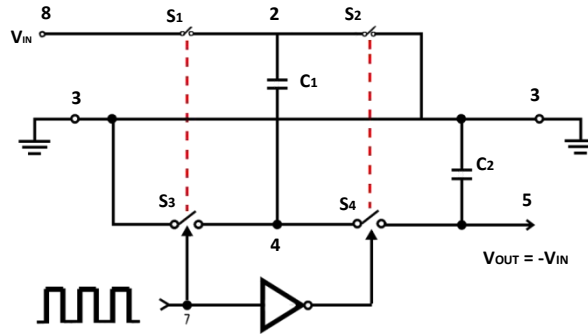
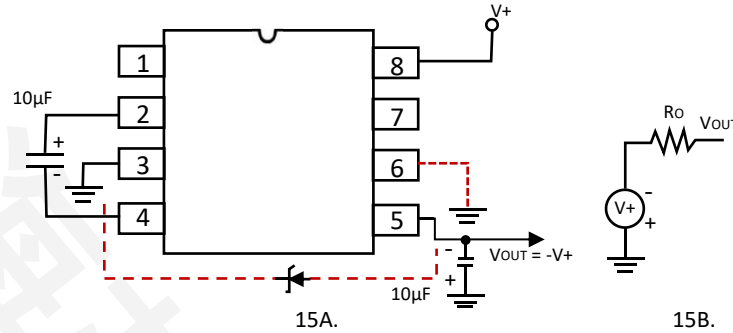
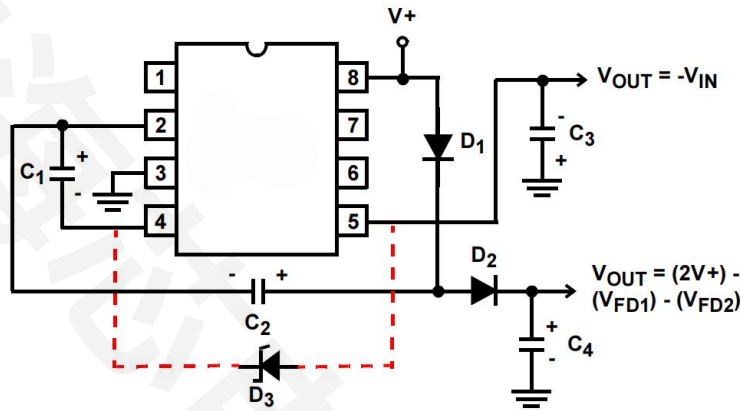
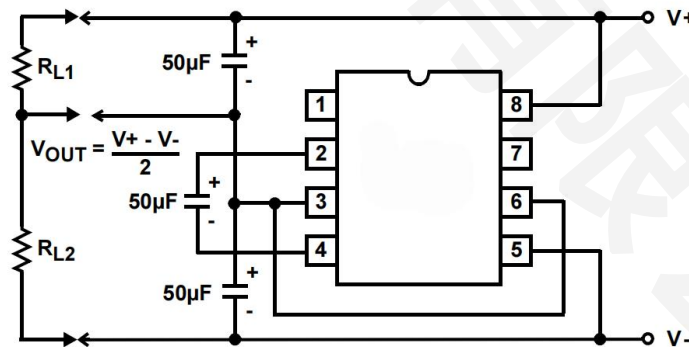

FIGURE 14. IDEALIZED NEGATIVE VOLTAGE CONVERTER
FIGURE 15. SIMPLE NEGATIVE CONVERTER AND ITS OUTPUT EQUIVALENT
FIGURE 19. COMBINED NEGATIVE VOLTAGE CONVERTER AND POSITIVE DOUBLER
FIGURE 20. SPLITTING A SUPPLY IN HALF
The ICL7660SIBAZT-HX contain all the necessary circuitry to complete a negative voltage converter, with the exception of two external capacitors, which may be inexpensive $10\mu F$ polarized electrolytic types. The mode of operation of the device may best be understood by considering Figure 14, which shows an idealized negative voltage converter. Capacitor C_1 is charged to a voltage, V_+ , for the half cycle, when switches S_1 and S_3 are closed. (Note: Switches S_2 and S_4 are open during this half cycle). During the second half cycle of operation, switches S_2 and S_4 are closed, with S_1 and S_3 open, thereby shifting capacitor C_1 to C_2 such that the voltage on C_2 is exactly V_+ , assuming ideal switches and no load on C_2 . The ICL7660SIBAZT-HX approach this ideal situation more closely than existing non-mechanical circuits.
In the ICL7660SIBAZT-HX, the four switches of Figure 14 are MOS power switches; S1 is a P-Channel device; and S2, S3 and S4 are N-Channel devices. The main difficulty with this approach is that in integrating the switches, the substrates of S3 and S4 must always remain reverse biased with respect to their sources, but not so much as to degrade their “ON” resistances. In addition, at circuit start-up, and under output short circuit conditions ($V_{OUT} = V+$), the output voltage must be sensed and the substrate bias adjusted accordingly. Failure to accomplish this would result in high power losses and probable device latch-up.
where V1 and V2 are the voltages on C1 during the pump and transfer cycles. If the impedances of C1 and C2 are relatively high at the pump frequency (see Figure 14) compared to the value of RL, there will be a substantial difference in the voltages, V1 and V2. Therefore it is not only desirable to make C2 as large as possible to eliminate output voltage ripple, but also to employ a correspondingly large value for C1 in order to achieve maximum efficiency of operation.
The majority of applications will undoubtedly utilize the ICL7660SIBAZT-HX for generation of negative supply voltages. Figure 15 shows typical connections to provide a negative supply where a positive supply of +1.5V to +12V is available. Keep in mind that pin 6 (LV) is tied to the supply negative (GND) for supply voltage below 3.5V.
The output characteristics of the circuit in Figure 15 can be approximated by an ideal voltage source in series with a resistance as shown in Figure 15B. The voltage source has a value of $-(V+)$. The output impedance (R_O) is a function of the ON resistance of the internal MOS switches (shown in Figure 14), the switching frequency, the value of C_1 and C_2 , and the ESR (equivalent series resistance) of C_1 and C_2 . A good first order approximation for R_O is shown in Equation 2:
Figure 19 combines the functions shown in Figure 15 and Figure 18 to provide negative voltage conversion and positive voltage doubling simultaneously. This approach would be suitable, for example, for generating +9V and -5V from an existing +5V supply. In this instance, capacitors C1 and C3 perform the pump and reservoir functions, respectively, for negative voltage generation, while capacitors C2 and C4 are pump and reservoir, respectively, for the doubled positive voltage. There is a penalty in this configuration which combines both functions, however, in that the source impedances of the generated supplies will be somewhat higher, due to the finite impedance of the common charge pump driver at pin 2 of the device.
The bidirectional characteristics can also be used to split a high supply in half, as shown in Figure 20. The combined load will be evenly shared between the two sides, and a high value resistor to the LV pin ensures start-up. Because the switches share the load in parallel, the output impedance is much lower than in the standard circuits, and higher currents can be drawn from the device. By using this circuit, and then the circuit of Figure 15, +15V can be converted, via +7.5 and -7.5, to a nominal -15V, although with rather high series output resistance ($\sim 250\Omega$).